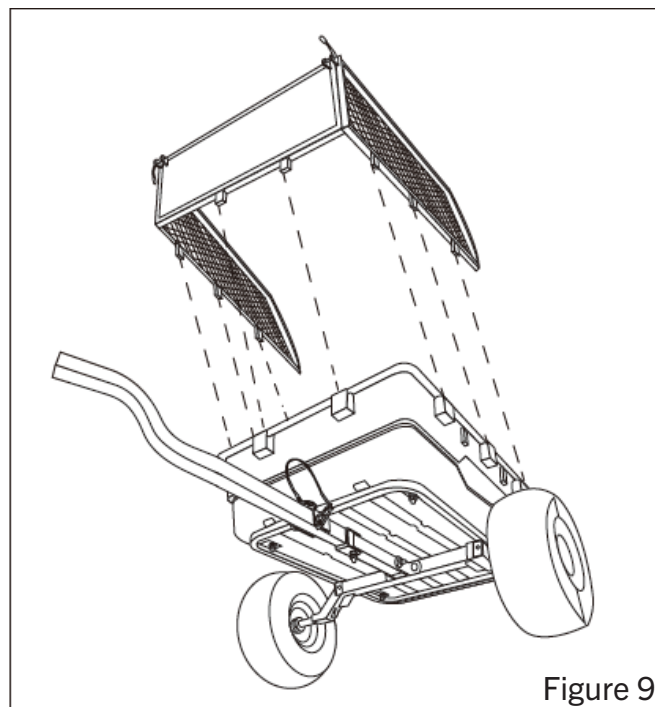

Figure 9
11. Place the bottom tabs on the extended front wall down into the tab receivers at the front, top edge of the trailer tub. Position it so the pin tabs face forward. Properly set, the wall's push buttons will snap into place to secure the wall. FIGURE 9
12. Position the right and left walls as done with the front wall, taking care to ensure the wall is on the correct side of the trailer. Properly positioned, the extended side walls will sit with the flat edge forward, with the pin tab sitting flush against the pin tabs at the top of the extended front wall. FIGURE 9
13. Place a wall pin through both sets of aligned pin tab holes with the back handle end to the outside of the trailer. Secure the pin with a lock nut. FIGURE 9